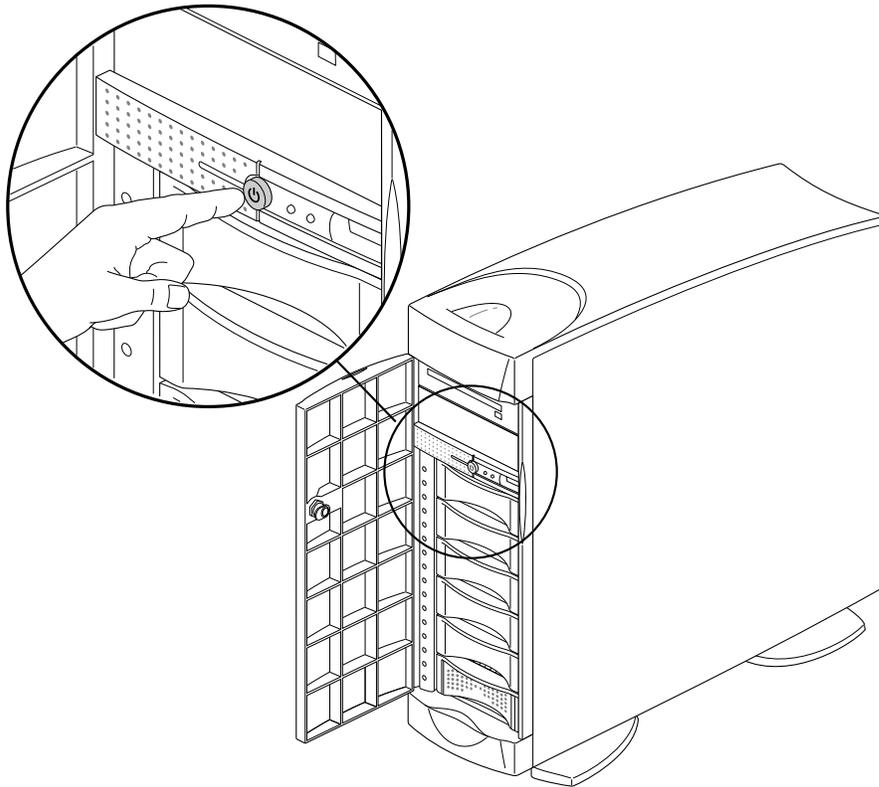

Figure 2-28 Turning On the Front Power Switch
- If you do not see any messages after turning on the main power switch, press the front of the CPU module (the master in a two-module server), press the front power switch, as shown in Figure 2-28.